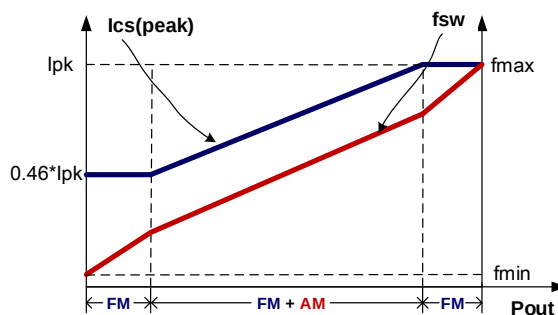

Fig.4
To meet the tight requirement of averaged system efficiency and no-load power consumption, a hybrid of frequency modulation (FM) and amplitude modulation (AM) is adopted in KP23132MSG which is shown in the Fig 4.